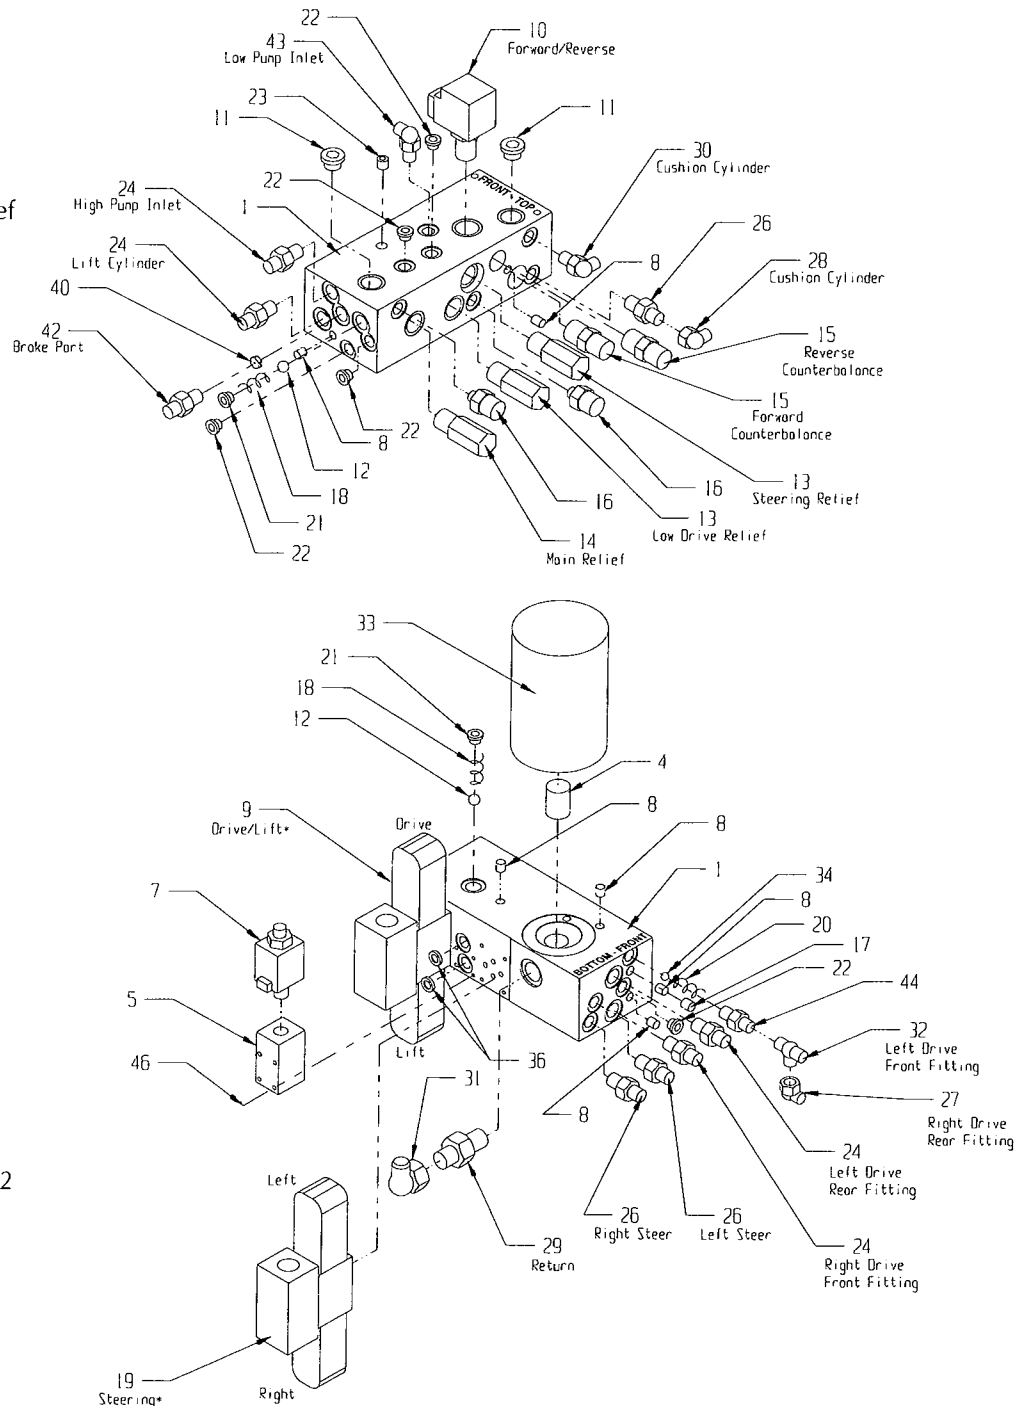

Figure 4-12: Hydraulic Manifold, Exploded View, Serial Numbers 1004-1599
## 4.7 Hydraulic Manifold (Figure 4-12 or 4-13)
**NOTE:** Mark all components as they are removed so as not to confuse their location during assembly. Refer to Figure 4-12 or 4-13 often to aid in disassembly and assembly.